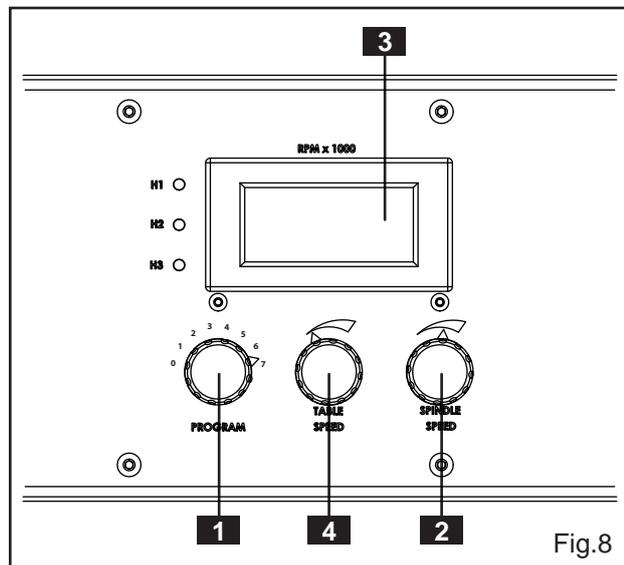

Fig.8
2. Setting RPM, rotation speed. (Fig.8)